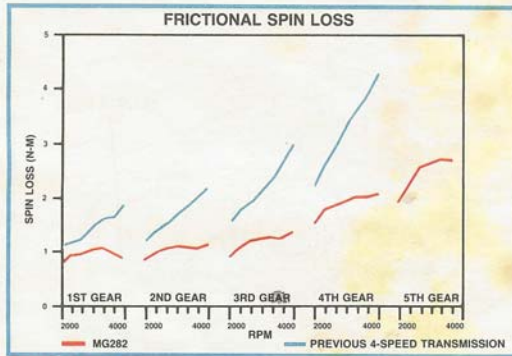

Figure 1-8, Friction Loss Comparison.
- Less transmission friction, allowing more power to reach the drive wheels (see Figure 1-8).